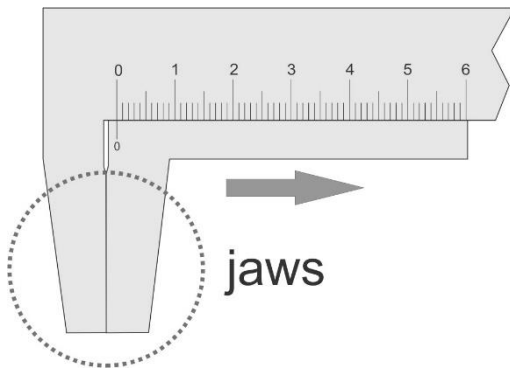
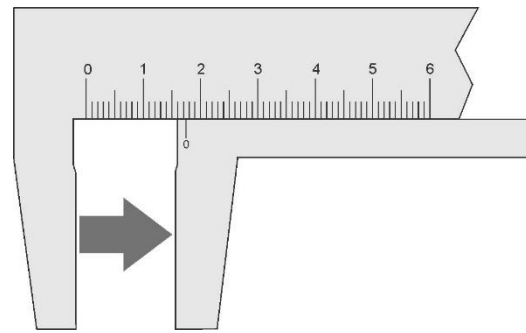

Figure 2 Vernier caliper with jaws closed
Figure 3 The Vernier caliper with its jaws opened
- 3.2. The jaws of the caliper are closed in **figure 2**. The bottom jaw slides along the main cm scale just above it – see **figure 3**. The 0 mark on the bottom jaw and the 0 mark on the cm scale are aligned with each other when the jaws are closed – **figure 2**. In **figure 3** the jaws were opened to the indicated position. How many millimeters were they opened, that is how far did the 0 on the bottom jaw slide along the cm scale above it? Estimate the fraction of the millimeter value, Δ , again.